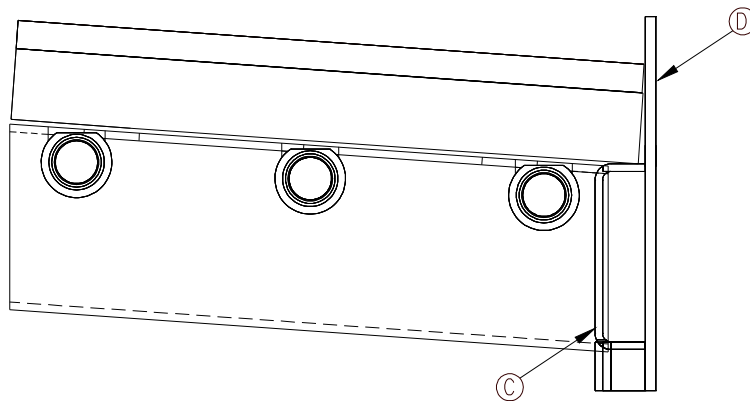

Figure 3.4b
2. Put them on the horizontal air duct (C) (see figure 3.4b). Afterwards, push them towards the bottom and sides so that they rest on the back of the firebox (D) and on the side air ducts.